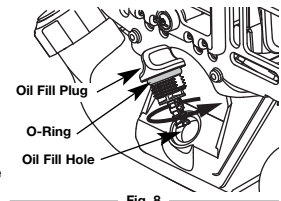

Fig. 8
3. Remove the oil plug / dipstick from the crankcase (Fig. 8).